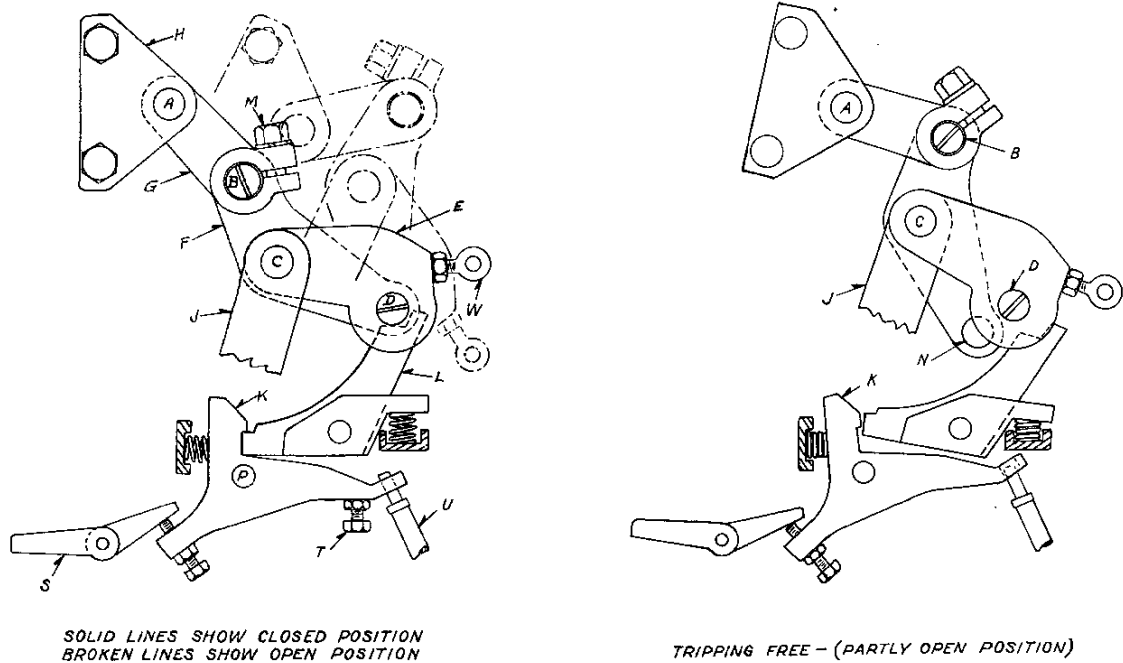

Fig. 3 - Action of the Latch and Toggle Mechanism
Figure 3 is for the purpose of explaining the action of the latch and toggle mechanism. When the breaker is fully closed and latched, as shown by solid lines, or when retrieved by the springs immediately after opening, the operating lever E and the link F are locked together to act as a single piece. Toggle link (F), latch, lever (L) and trigger (K) retrieve automatically after tripping, so that E and F are already locked together at the beginning of the closing stroke.